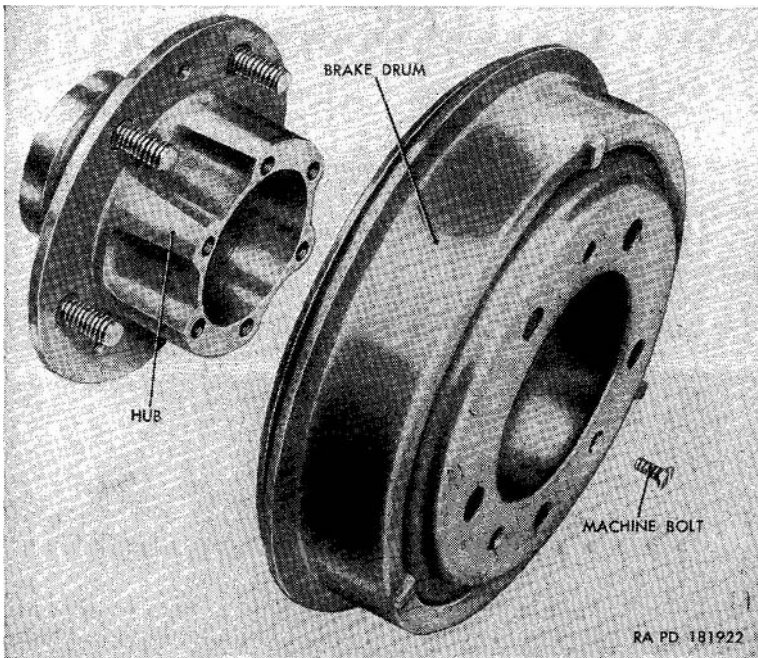

Figure 139. Brake drum—removed from hub.
- (1) Remove the wheel (par. 250a).
- (2) Unscrew and remove the three bolts (fig. 139) securing the brake drum to the hub, and pull the drum from the hub,